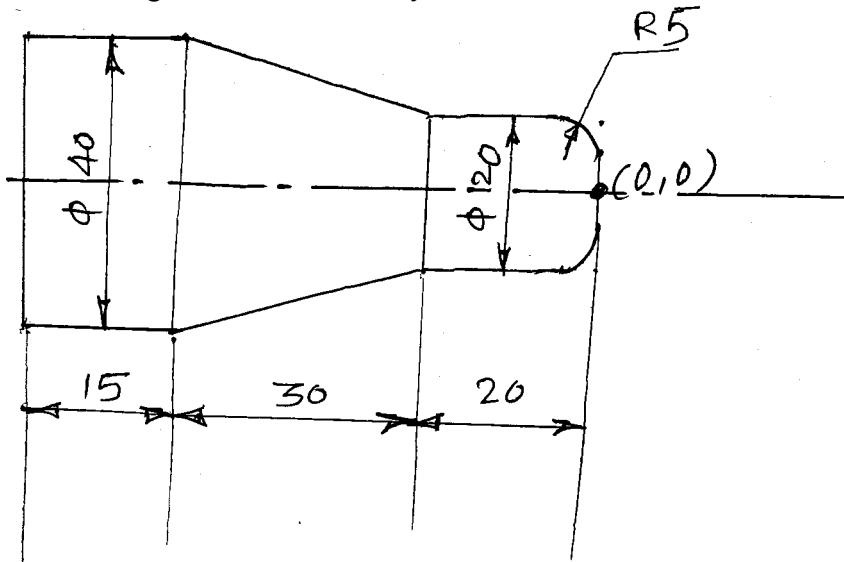

Fig. No. 1 Q. 3 (a)
- a) Write part programme for job as shown in Fig. No. 1 Take only finish cut. Spindle speed is 1200 r.p.m. and feed rate is 150 mm/min. Assume suitable machining data if necessary.